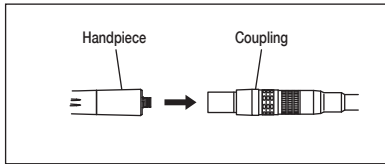

Fig. 3
- 2) Insert the handpiece firmly onto the coupling until it clicks to engage. (Fig. 3)
- 3) Do not exceed the air pressure of 36psi (2.5 bar). Air pressure readings must be checked at the coupling joint as shown in Fig. 3.